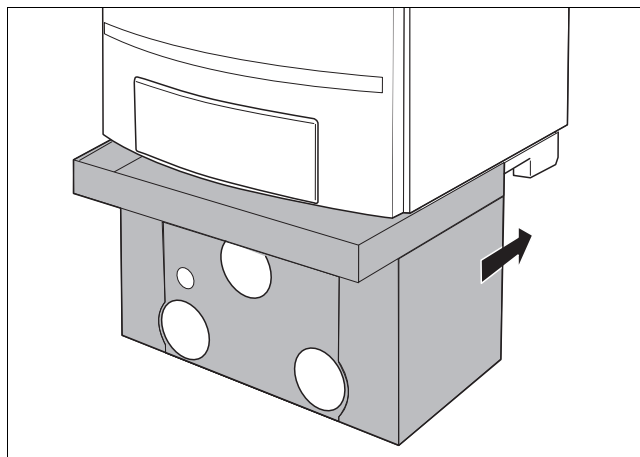

fig. 15 Installing the insulation cover
- Slide the insulation cover with its upper edge into the groove of the lower support (fig. 15).